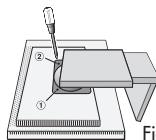
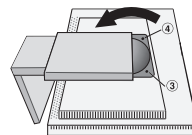

Figure S.2
Figure S.3
4. Remove the two top screws connecting the monitor to the stand (Figure S.2). Turn the stand to 180° counterclockwise (you will hear two clicks). Remove the screws from the bottom (Figure S.3) and lift off the stand. The monitor is now ready for mounting in an alternate manner.